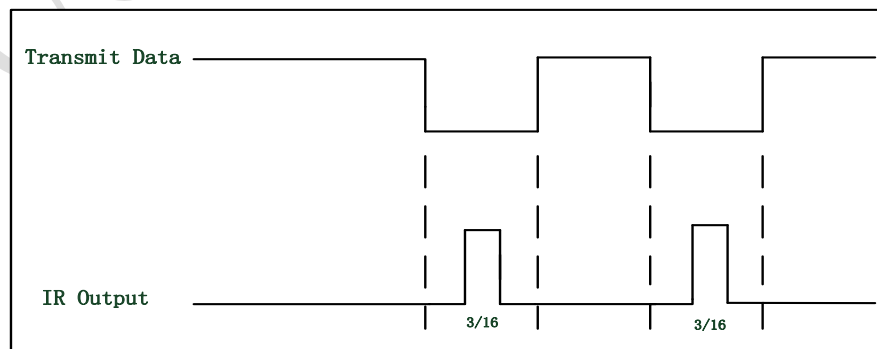

Figure 20 SIR encoding
SIR (serial IR) mode supports bi-directional data communication with a remote device using the infrared radiation as the transmission medium. IrDA 1.3 SIR allows serial communication at baud rates of up to 115.2 kbps. The format of the serial data is similar to the UART data format. Each data word is sent serially beginning with a zero value start bit, followed by 8 data bits, and ending with one stop bit with a binary value of one. Sending a single infrared pulse signals a zero. A one is signaled by not sending any pulse. The width of each pulse can be either 1.6 μs or $3/16$ of a single bit time. (1.6 μs equals $3/16$ of a bit time at 115.2 kbps). This way, each word begins with a pulse for the start bit. The device operation in the IrDA SIR mode is similar to the operation in UART mode. The main differences are that, those data transfer operations are normally performed in half-duplex fashion. Each data byte starts with a start bit (0), 1 byte of data, and then ends with at least a stop bit (1). Each serial data bit is encoded before transmission and decoded after reception. A 1 is decoded with no IR pulse and a 0 is decoded by sending $3/16$ ths of one bit time IR pulse. Similarly, the received serial pulse is decoded as a 0 and the absence of an IR pulse is decoded as a 1, Please refer to Figure 20.